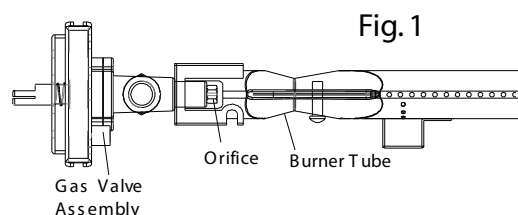

Fig. 1
Step 2. Install the Cooking Plate Support Brackets (15 x2), one each to the inside of the burner box of the Barbecue Head (A) with Screws (c. x1 each) as shown in Fig 1.
Step 3. Place Cooking Plate (6) onto the Cooking Plate Support Bracket (15) inside the Barbecue Head (A). From the front install the Grease Tray (18) into the gap provided at the base of the Barbecue Head (A).